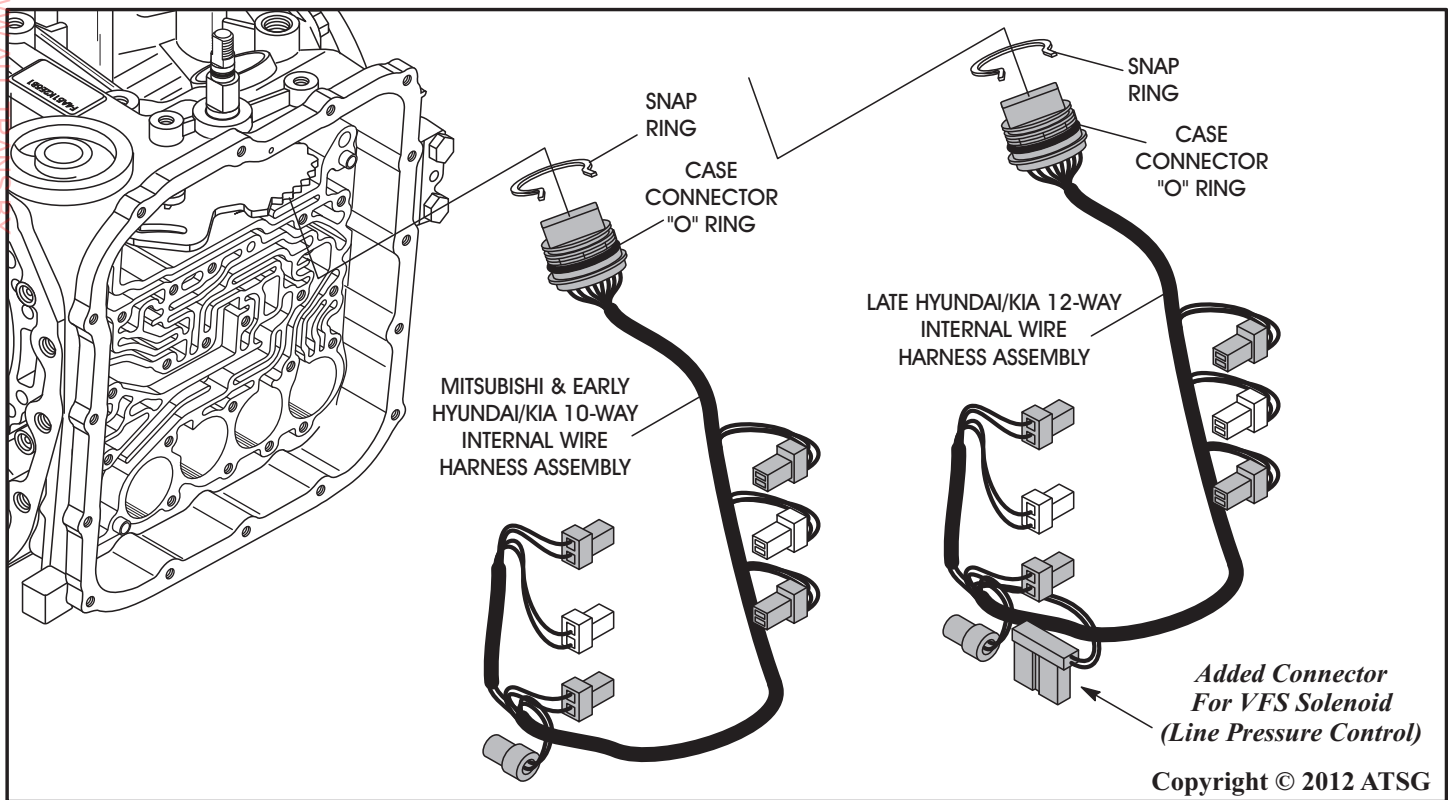

Figure 61
16. Remove the case connector snap ring and remove the internal wire harness through the inside of the case, as shown in Figure 61.
Note: Both the 10-way Mitsubishi and early Hyundai/Kia, and the 12-way late Hyundai/Kia internal harness are shown in Figure 61.
17. Remove and discard the case connector "O" ring, as shown in Figure 61.